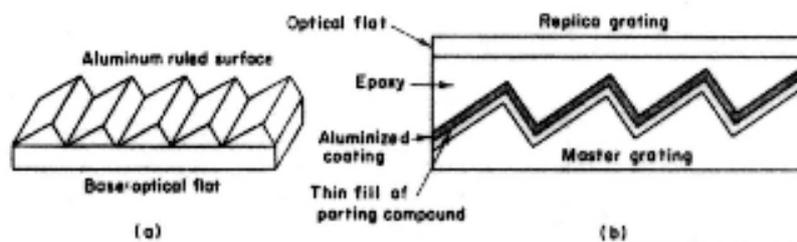
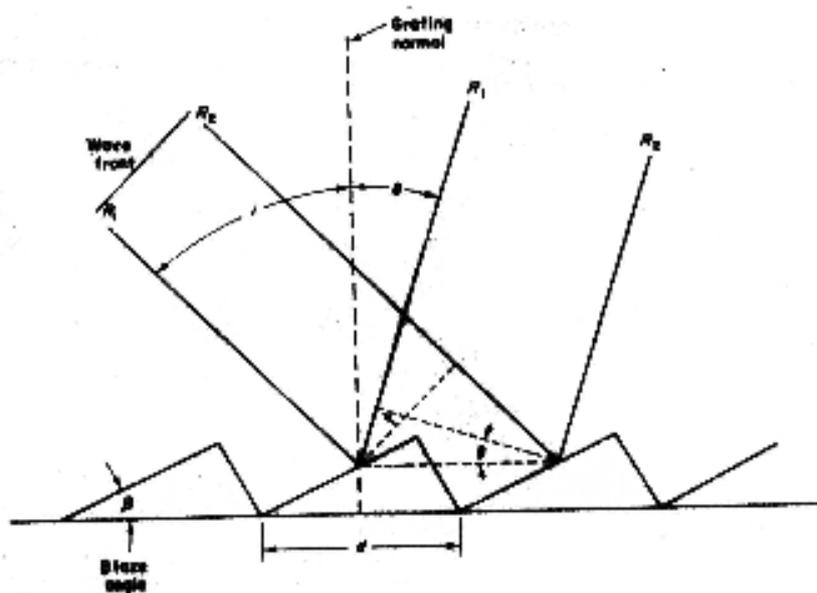

Figure-6
Figure-7
**1.4.9 GRATING ;** Dispersal of light may also be obtained by means of a diffraction grating. In single beam spectrophotometers generally grating is used as a dispersive device. A grating consists of a large number of parallel lines (actually grooves) ruled at extremely close intervals, perhaps 15000 or 30000 lines per inch, on a highly polished surface e.g. Aluminum. Ruling numbers from 20 grooves/mm in far infrared too as many as 3600 or more grooves/mm for the visible and ultraviolet regions. Grating offer better discrimination than prism, and wave length calibration curve is linear. View of master grating and interference of rays from grating are shown in figure-6 and figure-7